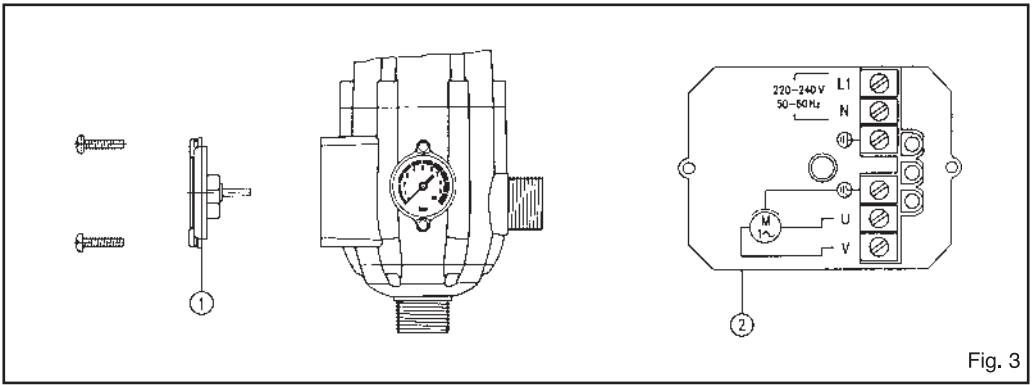

Fig. 3
ELECTRIC CONNECTION (Fig. 3)
- d) Incorrect electric connection: Verify the connections according to Fig. 3
- b) Pump is blocked: LED (FAILURE) is on, the security system is activated. When we act on the manual start switch (RESET) the LED (ON) is activated but the pump does not work: Contact with your dealer.